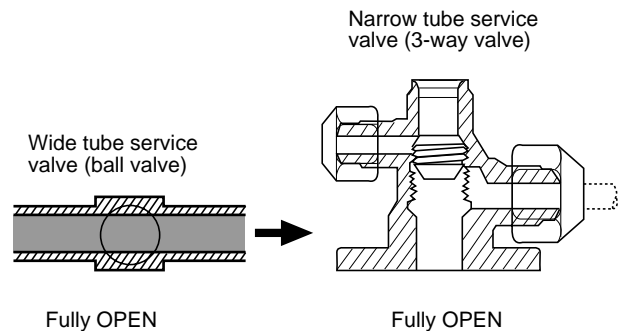

Fig. IV-23
- (6) Both the wide and narrow tube service valves are open. If not, open them now. (Fig. IV-23)